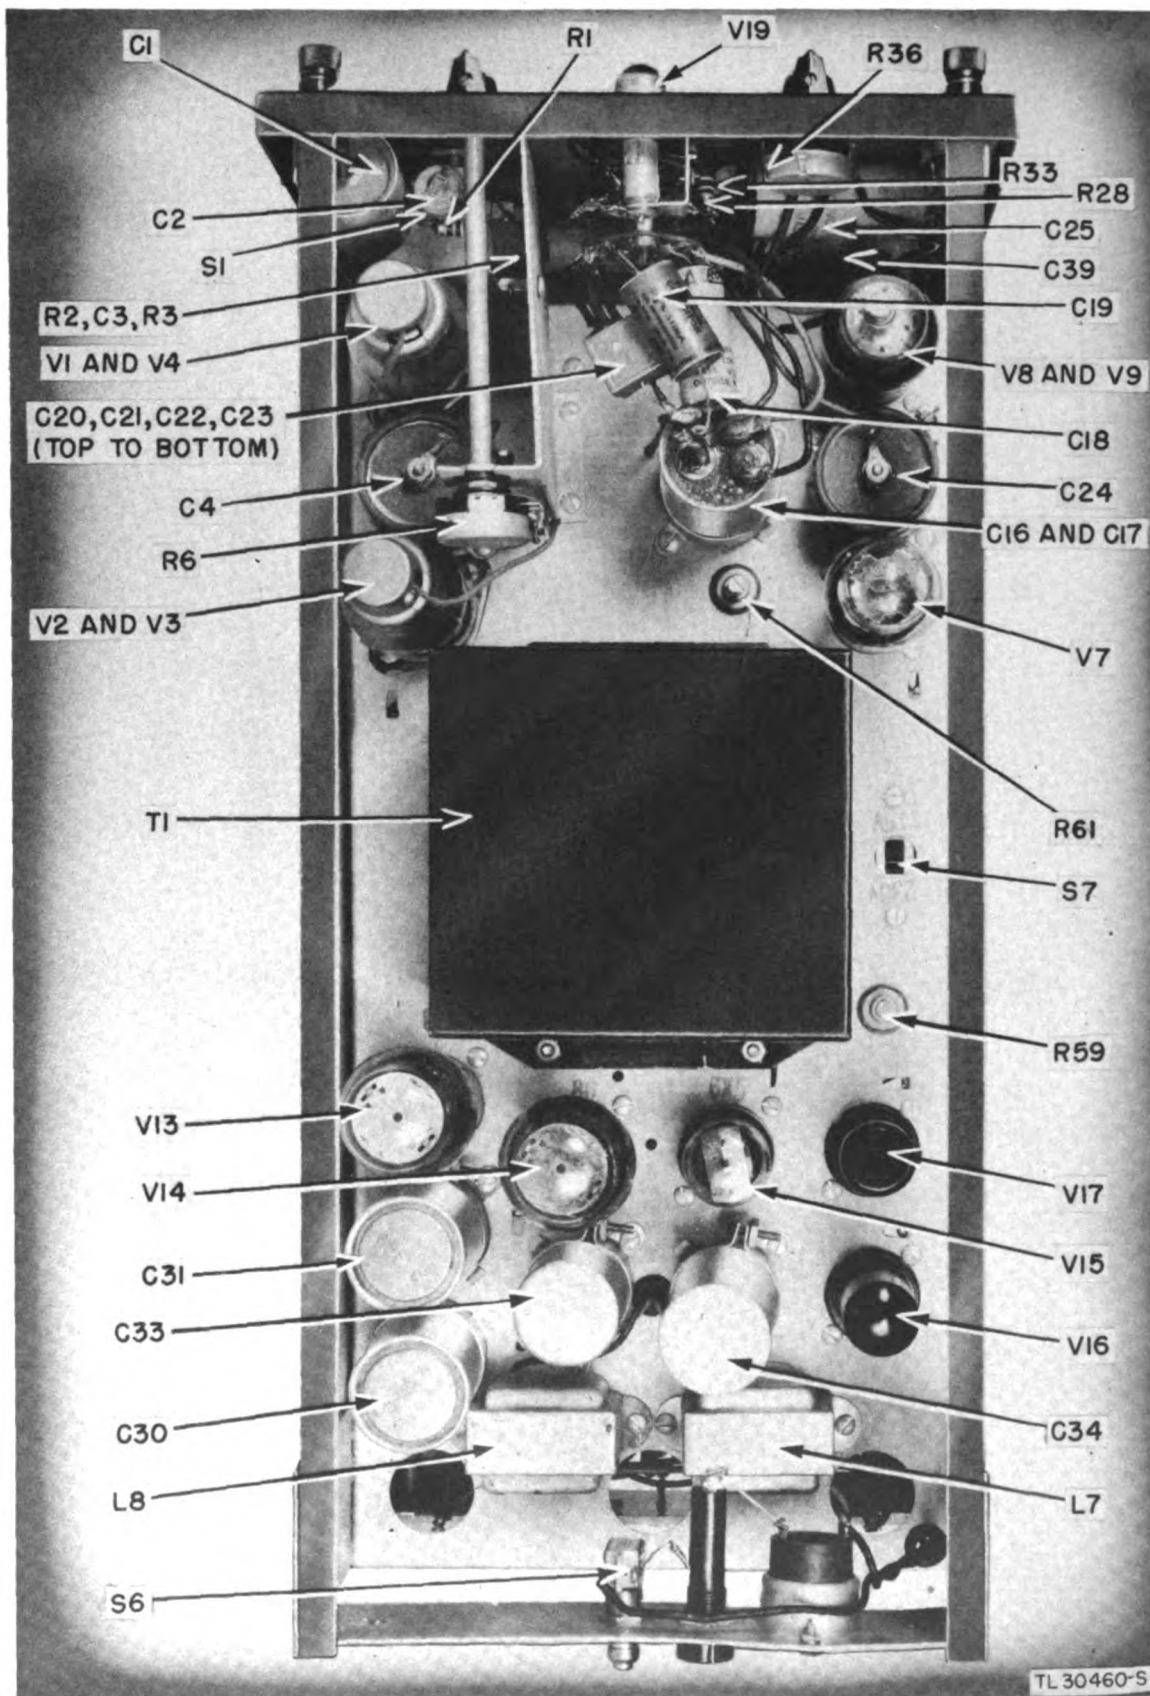

Figure 28. Bottom of chassis.
d. If the voltage is not 155 volts, adjust the voltage regulator adjustment on the bottom of the chassis (R59, fig. 28) until a reading of 155 volts is obtained.
f. Time the horizontal sweeps and adjust the FREQUENCY RANGE ADJUSTMENT (R61, fig. 28) until approximately 2 sweeps per second or 120 sweeps per minute occur.